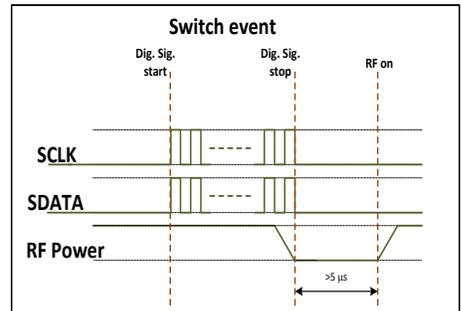

Figure 3 Switch Event Timing
1. Once VIO is powered down to 0V, wait a minimum of 10  $\mu$ s to reapply power to VIO. (see figure 3)